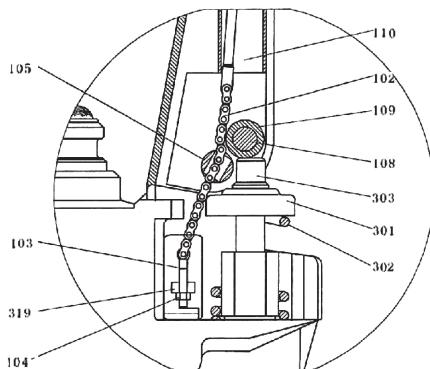

Fig. 3
- Let control handle(117) to the 'LOWER' position, then pass the adjusting nut(104), adjusting bolt(103) and chain(102) through the hole of axle (105) with your hand (See fig. 3).